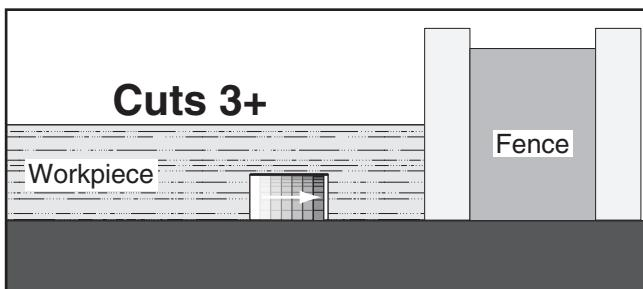

Figure 66. Additional single-blade dado cuts.
- Make additional cuts (see **Figure 66**) in center of dado to clear out necessary material. Dado is complete when channel is completely cleared out.